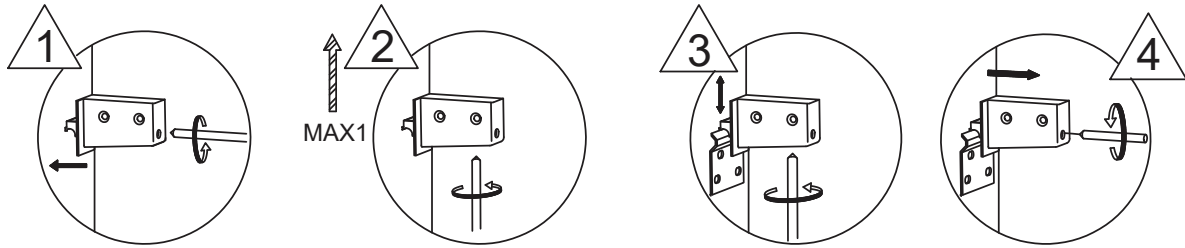

Fig.5
5. Set the washbasin cabinet onto the wall bracket. Be sure the cabinet adjusted level and the back board of cabinet appressed to the wall by adjusting the screws of wall clips. See Fig.5
10. Set the washbasin cabinet onto the brackets. Be sure the cabinet adjusted level and the back board of cabinet appressed to the wall by adjusting the screws of wall clips. See Fig. 5